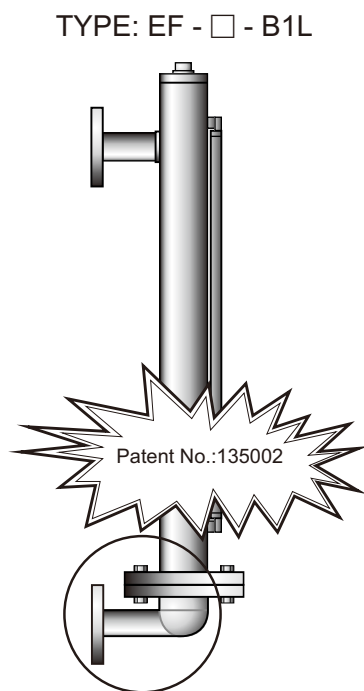

Fig.2
2.) Innovative Design For Bottom End Flange and the Connecting Flange (Fig.2)